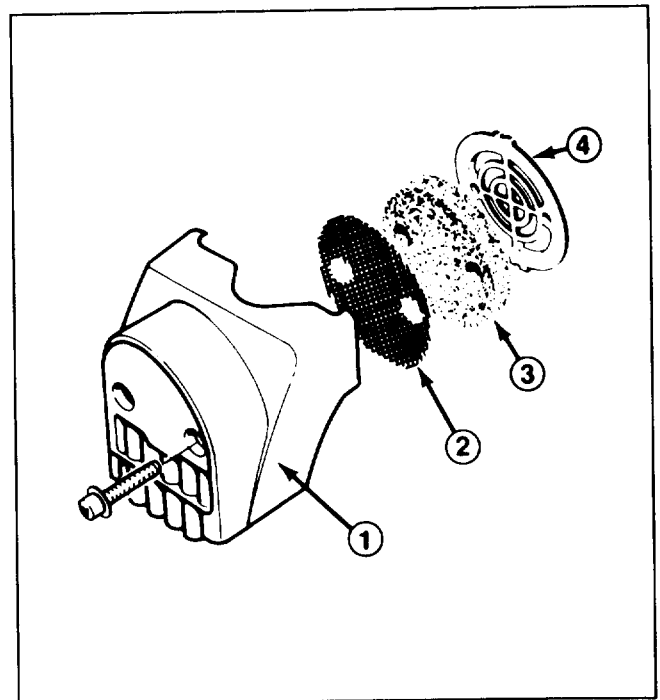

Figure 12
SERVICING AIR CLEANER (Fig. 12)
6. Reinstall air cleaner components as shown in Figure 12.
5. Reinstall air cleaner cover and air cleaner components to trimmer. See Servicing Air Cleaner, Figure 12 for component sequence.